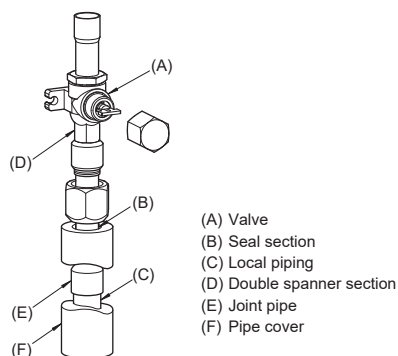

Fig. 4-3
- (3) Use the following procedure for connecting the gas-side piping. (Fig. 4-3)
- Braze the (E) Joint pipe provided to the outdoor unit using locally procured brazing materials and (C) Local piping without oxygen.
- Connect the (E) Joint pipe to the gas-side valve.